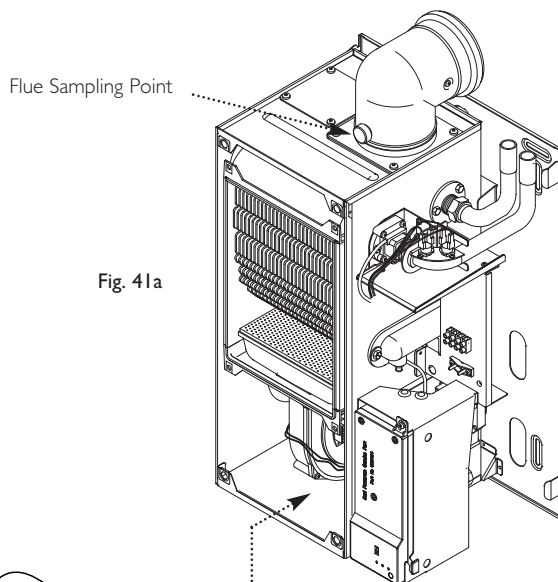

Fig. 41a
11. Check CO/CO2 ratio and CO2 level at the flue sampling point (Fig. 41a) is as quoted in Section 4.0 Technical Data.
11. Check CO/CO2 ratio and CO2 level at the flue sampling point (Fig.41a) is as quoted in Section 4.0 Technical Data.